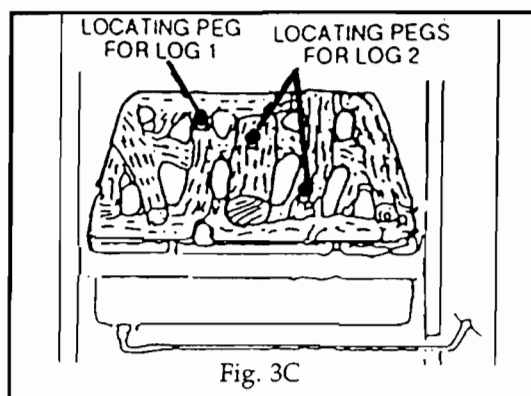

Fig. 3C
- (ii) Locate the log bed as shown in Fig. 3C. Ensure that the front end is retained in the front rail recess and the back end rests firmly on the ceramic base.